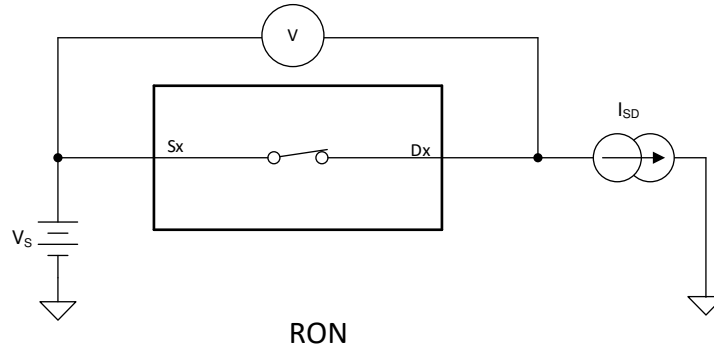

图 6-1. On-Resistance
The on-resistance of a device is the ohmic resistance between the source (Sx) and drain (D) pins of the device. The on-resistance varies with input voltage and supply voltage. The symbol R_{ON} is used to denote on-resistance. 图 6-1 shows the measurement setup used to measure R_{ON} . Voltage (V) and current (I_{SD}) are measured using the following setup, where R_{ON} is computed as $R_{ON} = V / I_{SD}$: